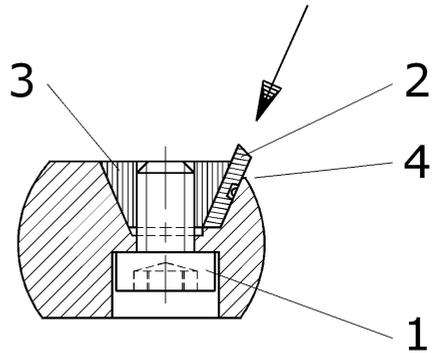

Fig. 7
(see Fig. 7 and 8)
2. Loosen screw (1) with suitable key only so far, until the knife (2) can be removed along the gib (3).
4. Mount precisely the reversed- or new knife into the knife seat (see Fig. 7 and 8). Make sure that the stop edge of the knife leans onto the stop face of the knife seat as well as it is within the lateral positioning kerf (4), (see Fig. 7). Make sure that the safety pin (5) engages into the holes provided for by the knife (8).
5. Push slightly the knife against the stop face (see Fig. 7 and 8).